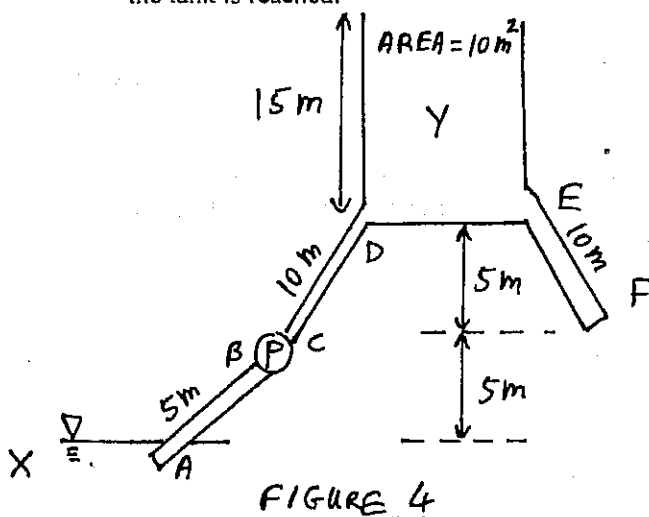

FIGURE 4
4) Figure 4 shows a pipe system AB and CD that moves water from a large reservoir, X, to a tank Y, by means of a pump, P. The lengths of AB and CD are 5 m and 10 m, respectively. The bottom of the tank Y, is 10 m above the level of the reservoir, X. The cross-sectional area of the tank Y is 10 m^2 . The tank Y discharges water to the atmosphere through the pipe EF, which has a length of 10 m. The point F is 5 m below the bottom of the tank Y. All pipes are of diameter 2.5 cm and have a friction factor of 0.01. At time $t = 0$, the tank Y is empty. The pump is started at time $t = 0$. The pump is tested at its operating speed and the results are given in Table 4.